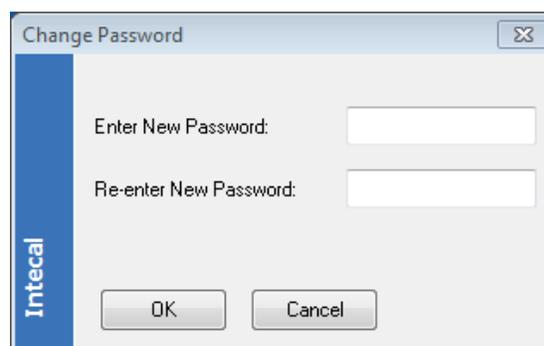

Figure 2-6: Change Password window
- When the *Change Password* window opens (Figure 2-6), enter the applicable password.